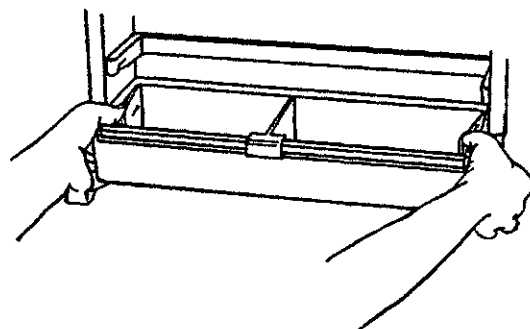

Figure 46
- c. Move bucket by holding lock tabs in and pulling bucket straight out. See Figure 46.